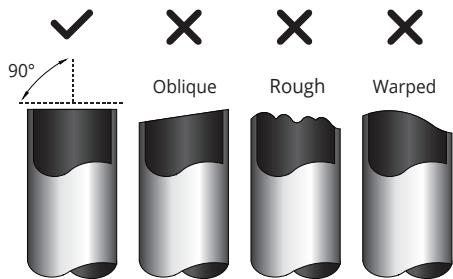

Fig. 7.3
- Make sure that the pipe is cut at a perfect 90° angle. Refer to Fig. 7.3 for examples of bad cuts